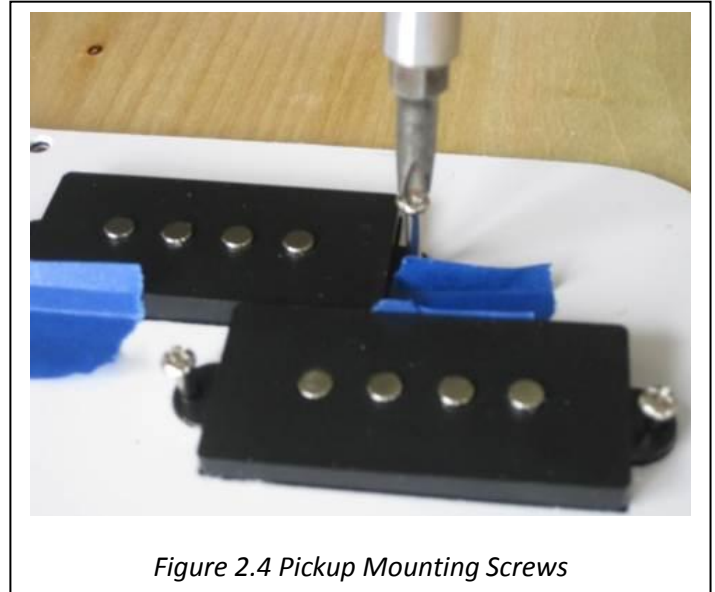

Figure 2.4 Pickup Mounting Screws
1. Temporarily place the pickups into their positions in the pickguard – hold in place with tape. Place the Control Plate in the Body Control Plate Cavity (reference Figure 2.4), while inserting the pickguard around the neck – ensure that the wiring is in the cavity.
4. Using 3/8" screws (item 4 on Material list), temporarily attach the pickguard in 2 places.
5. Using the pickup mounting screws (#3 on material list), carefully start each screw through the pickup into the body to a depth of approximately 1/4" – ensure that each screw is perpendicular to the body (Figure 2.4). The proper orientation of the pickups will be covered in the Assemble section.